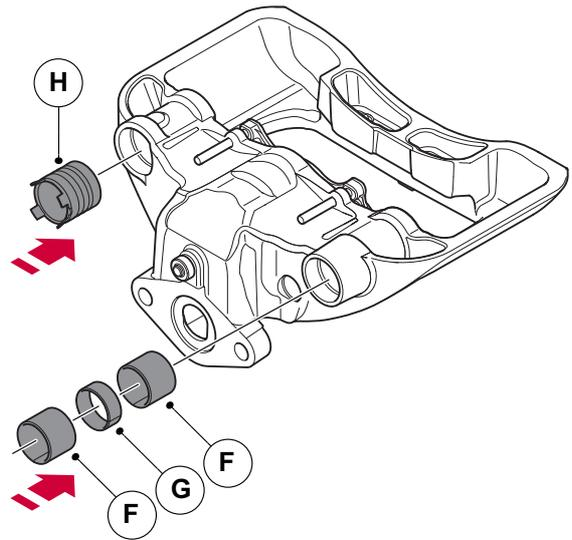

Figure 58. Install the leading slide bearings and trailing side bushing
- Carefully follow steps 2-4 below to install the two leading bearings (F) and the spacer (G) and step 5 to install the trailing composite bushing (H), see figure 58.